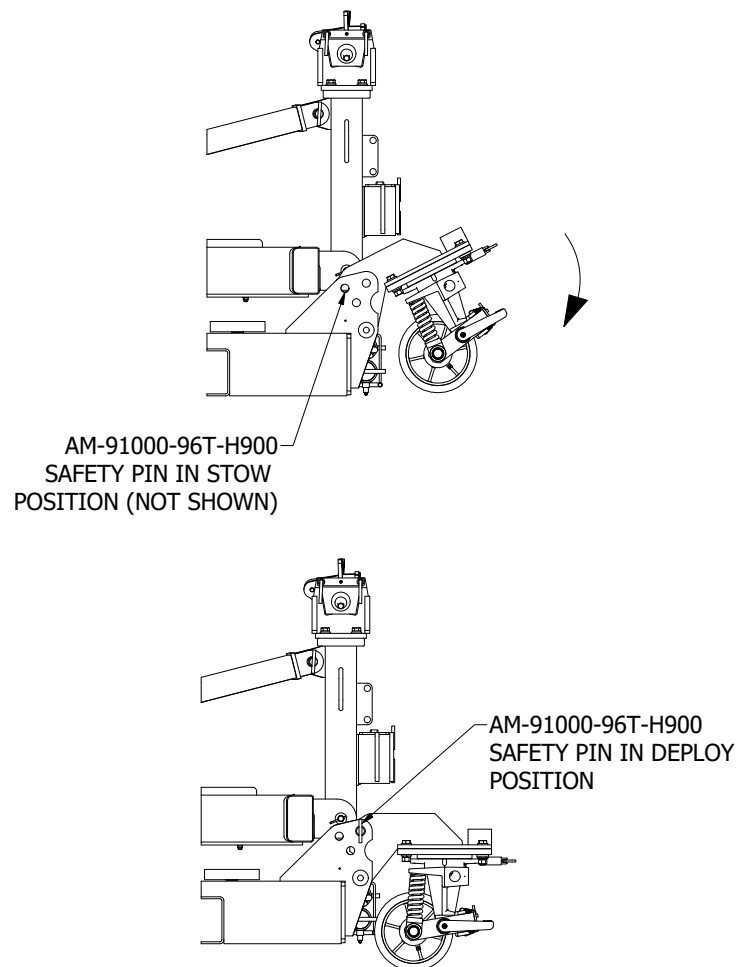

Figure 4.3-1
- 4). Re-insert the AM-91000-96T-H900 safety pin and retainer pin to secure the caster assembly in the deploy position (Figure 4.3-1).